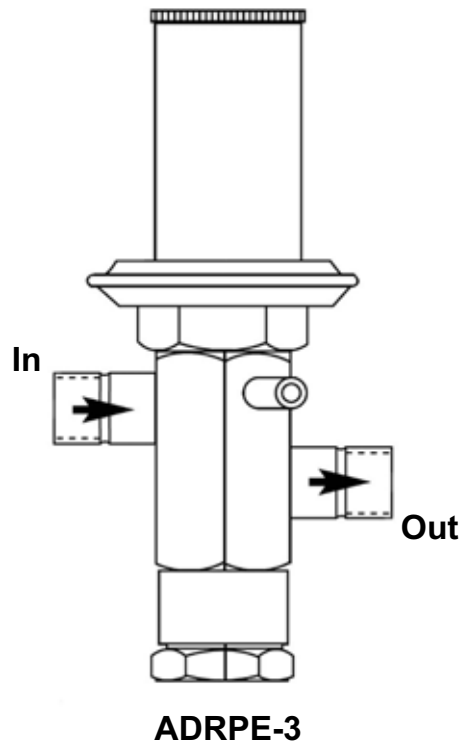

FIGURE 2 - HOT GAS BYPASS VALVE
9. Install the ADRPE-3 onto the 2 In. piece of 5/8 copper. See Figure 2.